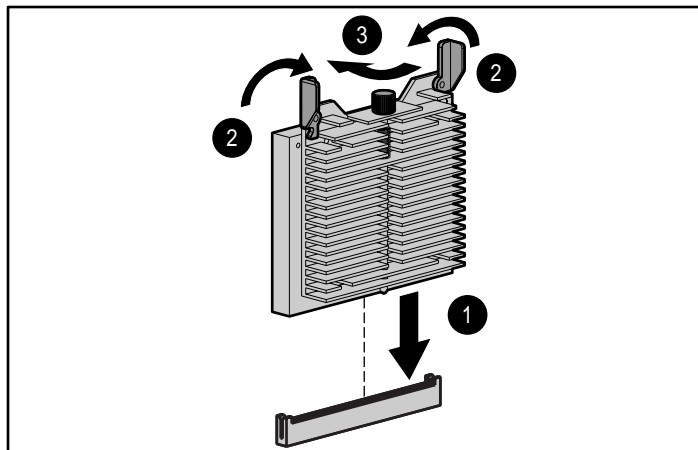

Figure 4-4. Installing the processor
3. See Figure 4-4 for processor installation procedure.